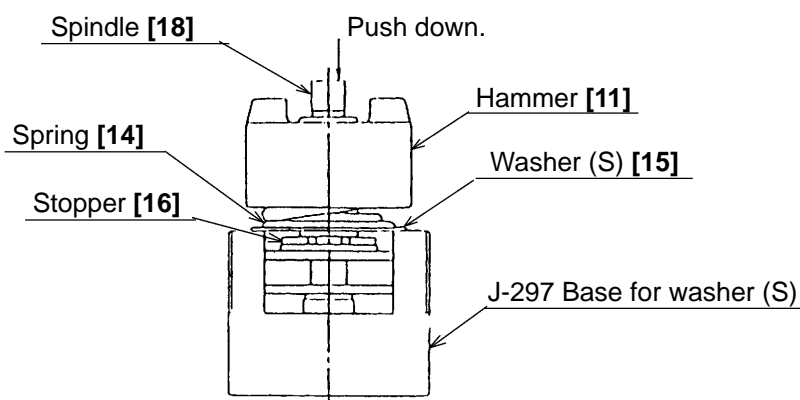

Fig. 4
Mount the hammer assembly onto the J-297 base for washer (S). With a hand press, push down the top of the Spindle [18] to compress the Spring [14]. In this position, remove the Stopper [16] with a flat-blade screwdriver, then release the hand press. (See Fig. 4.)